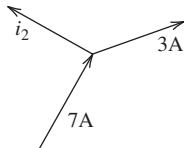

FIGURE P2.21 Image for Problem 2.21.
2.21 (B) Use KCL to find i_2 in Figure P2.21.